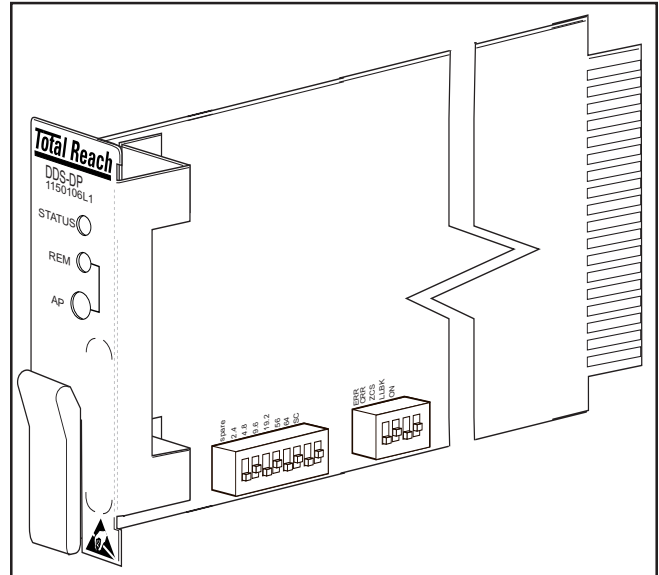

Figure 1. BR1/10 Total Reach DDS-DP
**Figure 1** is a stylized rendering of the ADTRAN Total Reach DDS-DP.